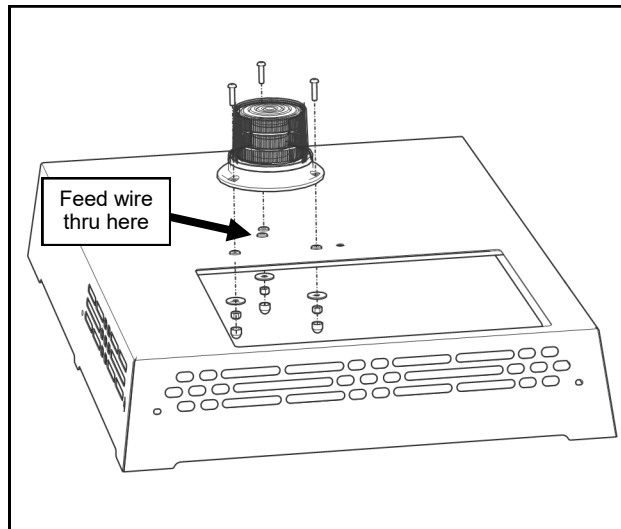

Fig. 7.2 (Install beacon light to cover)
- 7.2** If installing or re-installing a beacon light, Curtis recommends installing the beacon light onto the top cover for the A/C unit. See fig. 7.2. Use the template on page 11 to locate and drill four 7/16" holes in the cover at the spots marked "A" on the template, referencing the cutout in the cover and the 3/8" hole marked "B" on the template.